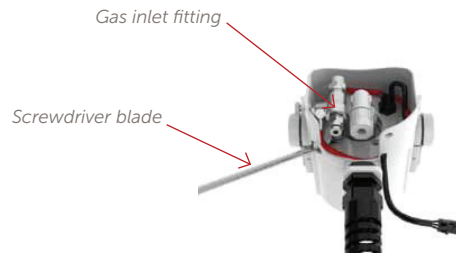

Figure 36. Using a screwdriver to remove the gas inlet fitting.
2. Remove the gas inlet fitting from the ErgoNOW connector. Do this by inserting a flat-bladed screwdriver through the access hole in the ErgoNOW connector, as shown in Figure 36. Gently pry the quick connect fitting upward to release it.